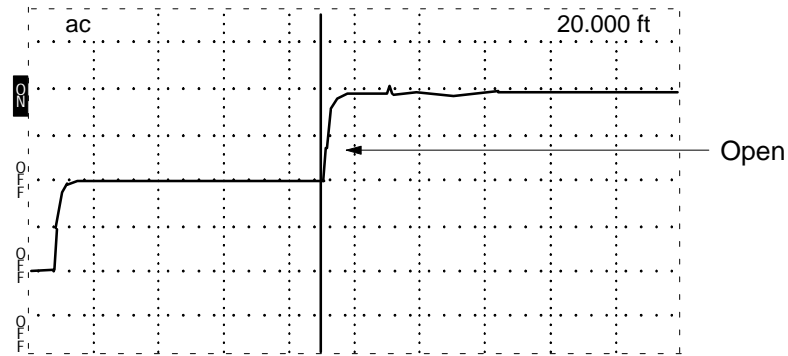

Figure 1–10: Open in the Cable
When the entire cable is displayed, you can tell if there is an open or a short. Essentially, a large downward pulse indicates a short (see Figure 1–9), while a large upward pulse indicates an open (see Figure 1–10). Less catastrophic faults can be seen as smaller reflections. Bends and kinks, frays, water, and interweaving all have distinctive signatures.
3. To find the distance to the fault or end of the cable, turn the $\langle \triangleright \rangle$ POSITION control until the cursor rests on the leading edge of the rising or falling reflected pulse (see Figure 1–10). Read the distance in the distance window in the upper right corner of the display.